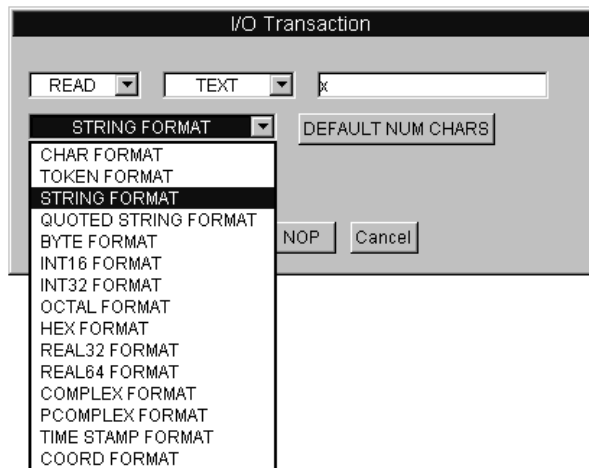

Figure 132 Selecting String Format
- 3 In the From File object, leave the default data file myFile. Double-click the transaction bar to get the I/O Transaction dialog box. Click REAL64 FORMAT and change it to STRING FORMAT, as shown in Figure 132.